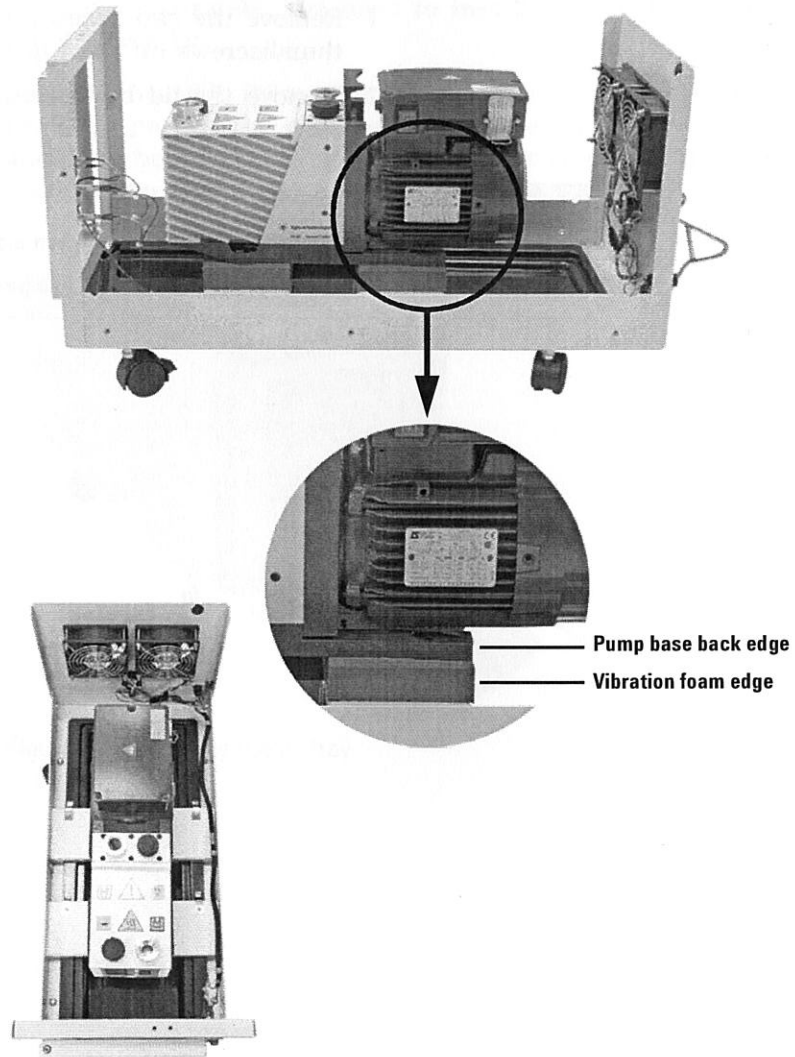

Figure 4 Proper installation of the DS 202/302 pumps
- 3 For Agilent DS 202 and DS 302 pumps, align the back edge of the vibration foam with the back end of the pump base (Figure 4). Center the pump on the vibration foam.